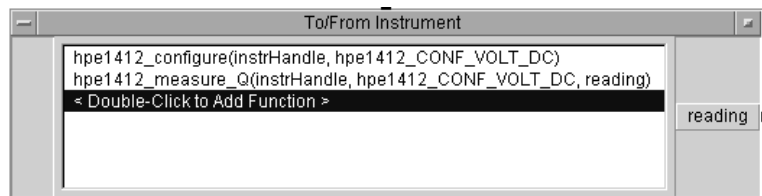

Figure 110 HPE1412 Driver Ready for a DC Reading
- 9 Click **OK**. A second function call is listed in the To/From Instrument object as shown in Figure 110.